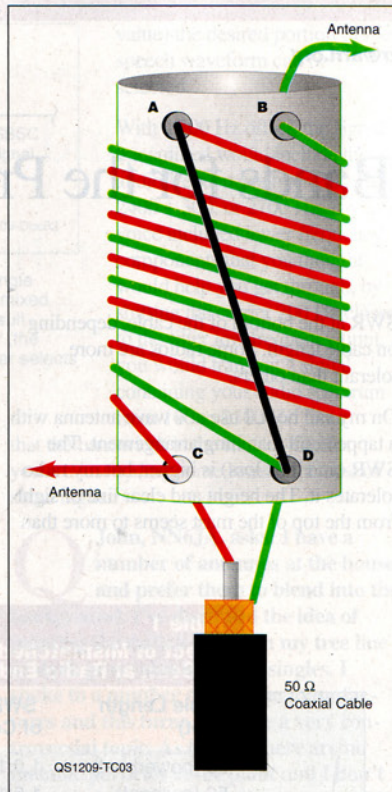

Figure 3 — This diagram shows the balun coil winding details. Stainless steel nuts and bolts are used at points A-D.
- 3) Stainless steel nuts and bolts (not shown on Figure 3) to terminate the wires and provide anchor points for the antenna wires.
Figure 3 — The elevation pattern shows a maximum gain of 2.34 dBi at 34° elevation. This is only 0.25 dB less than if the antenna were in free space (at an infinite height above ground). It's nearly 2 dB more than if the antenna were strictly vertical (not slanted).
over a straight vertical orientation. Figure 3 is the EZNEC elevation plot, using the EZNEC “real ground model” (conductivity = 0.008 S/m, dielectric constant = 13).